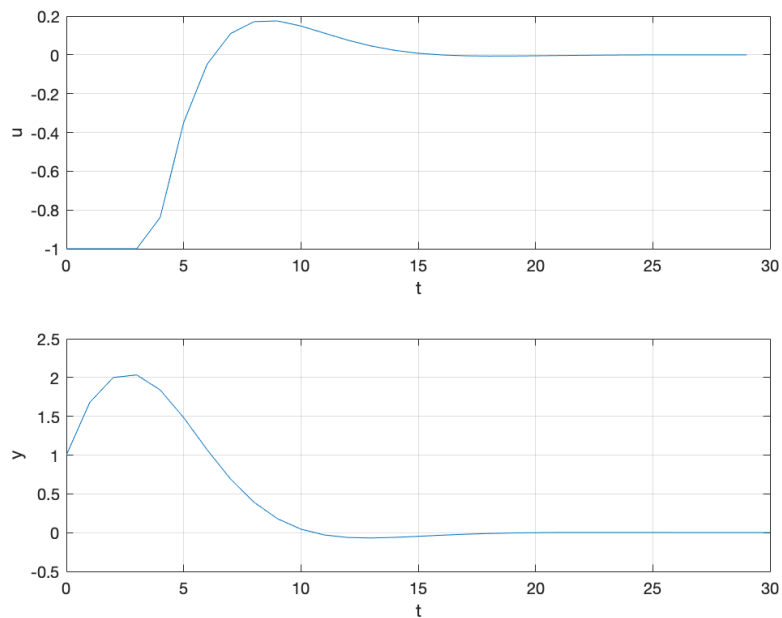

Figure 5:  $u_t$  and  $y_t$  for inequality constrained control input.
- f) The resulting plot is in Figure 5. The number of iterations with `quadprog` was 5, this increase comes because the QP is now inequality constrained, which is harder to solve.